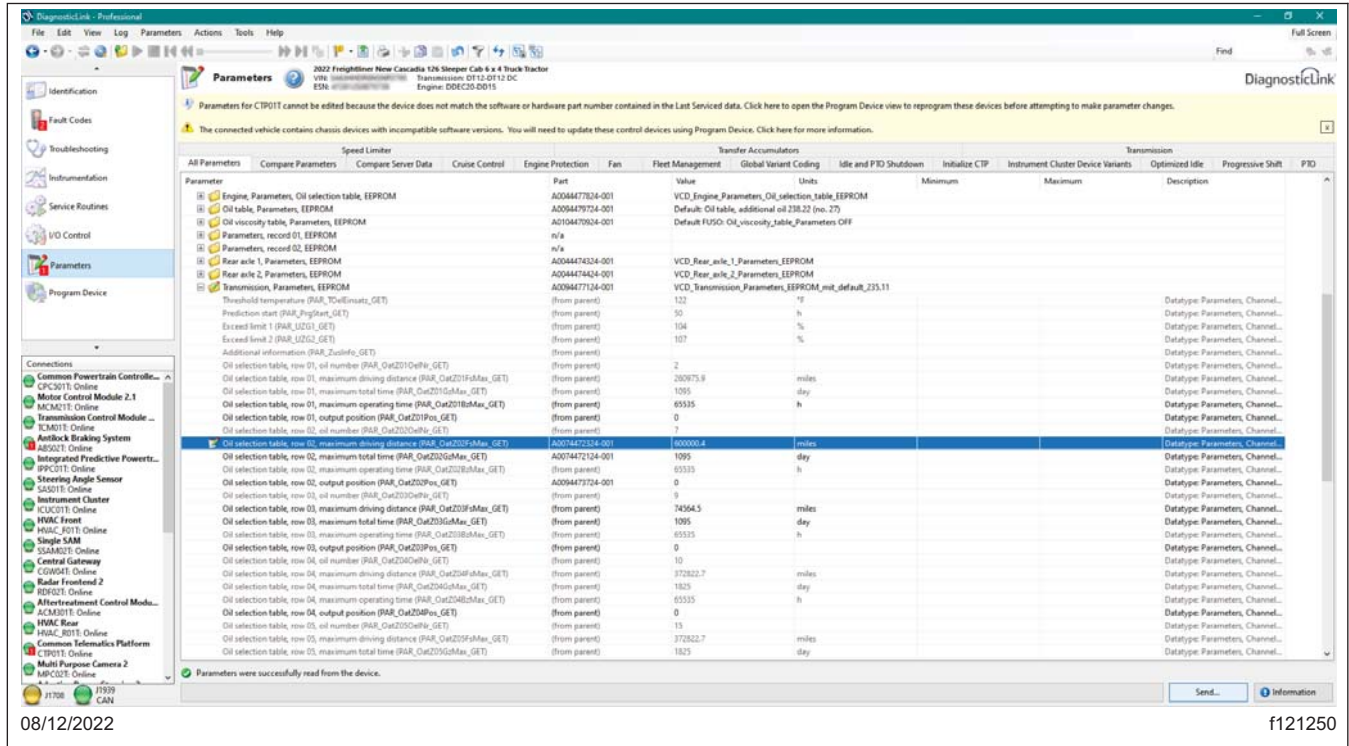

Fig. 4, Writing Parameter Changes to the Vehicle
8. Select the 'Send' button to write the parameter change to the vehicle. See Fig. 4.